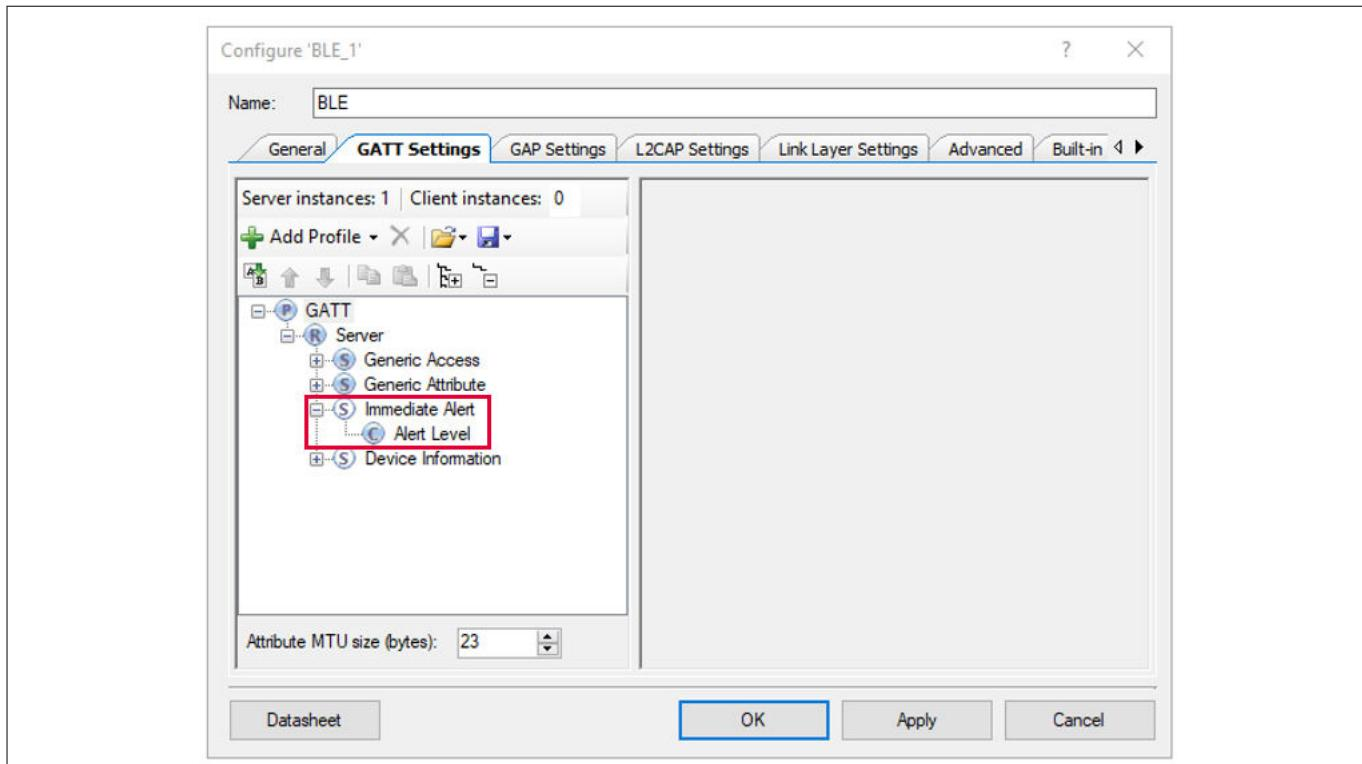

Figure 89 Bluetooth® Low Energy component immediate alert service added
- Select the **Find Me > Find Me Target (GATT Server)** option. This sets the GAP Peripheral role profile. When the menu disappears, notice that a new service “**Immediate Alert**” appears, as shown in Figure 89